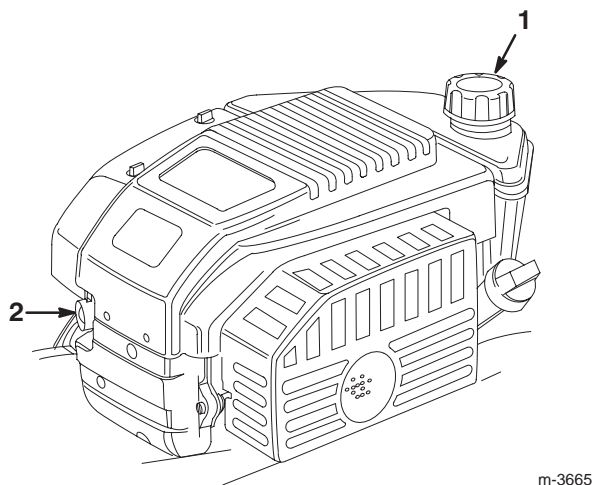

Figure 6
1. Clean around the fuel tank cap (Fig. 6).
3. Push the primer three times (Fig. 6). **Wait about two seconds between each push.**